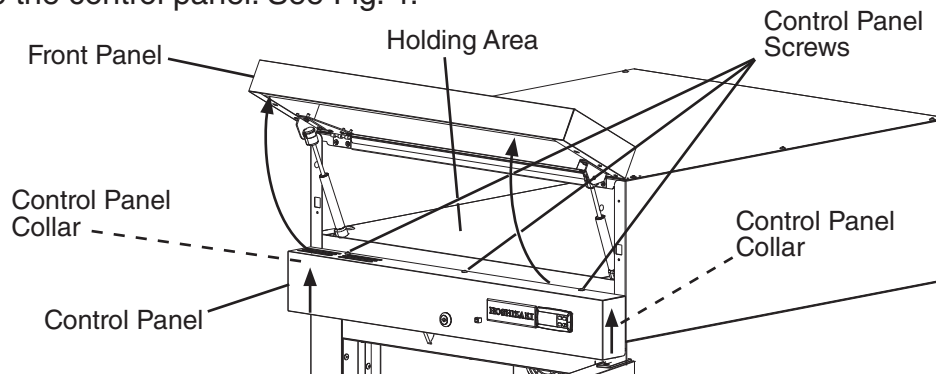

Fig. 4
- 2) Raise the front panel, then remove the control panel screws. Next, lift the control panel up and lift off of the control panel collars. Be careful not to pull the wires on the control module and door switch(es), remove the control panel and place in the holding area above the control panel. See Fig. 4.